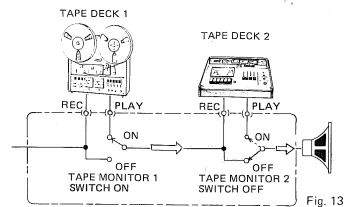

Fig. 13
1. If the tape deck is connected at TAPE 1, set the TAPE MONITOR 1 switch to ON; if connected at TAPE 2, set TAPE MONITOR 2 switch to ON. (see Fig. 13).